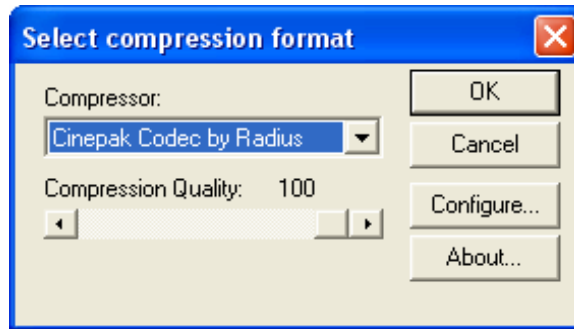

Figure 2.56 Select compression format
7. From the dialog box illustrated in Figure 2.56, select **Microsoft Video 1** from the **Compressor** list and click **Ok** button.